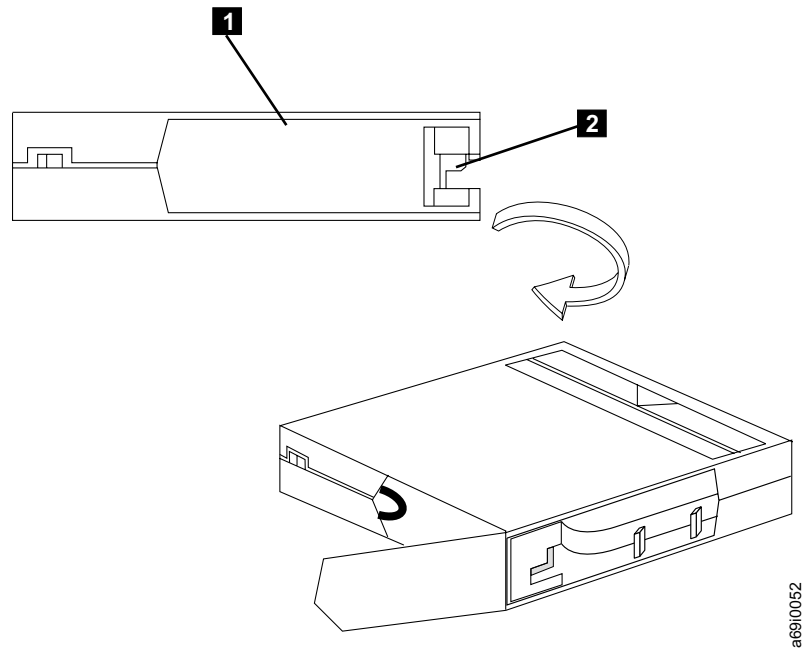

Figure 54. Opening the tape cartridge door
7. Open the cartridge door ( **1** in Figure 54 on page 223) by pressing and holding the door-locking tab **2** upward, and pushing it away from you.